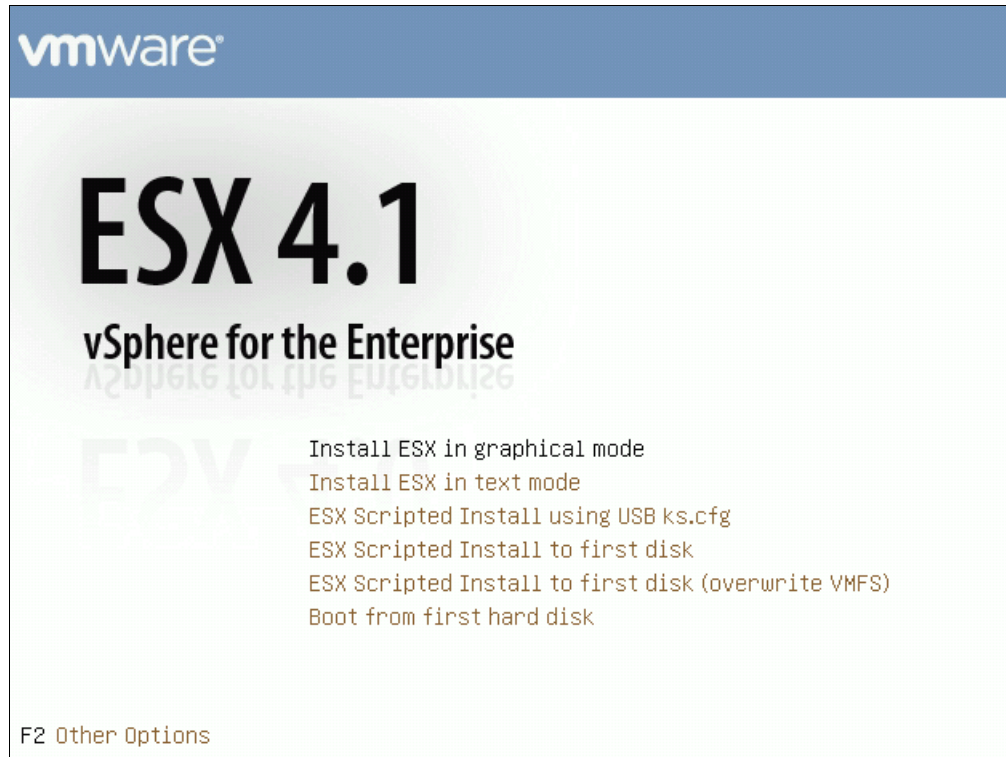

Figure 7-58 ESX installation options window
2. Press F2 when the installation options panel displays, as shown in Figure 7-58 on page 363.